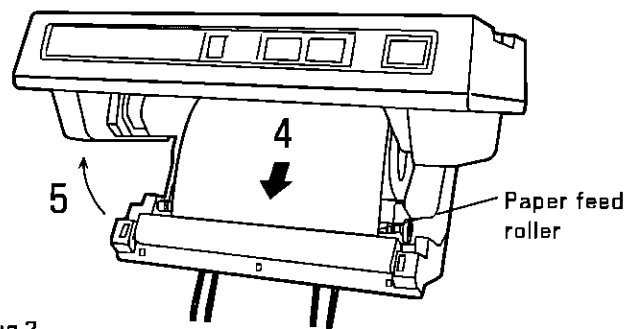

Fig 2
- 4 In case the paper cannot go through, just put the paper on the paper feed roller as shown Fig. 2.